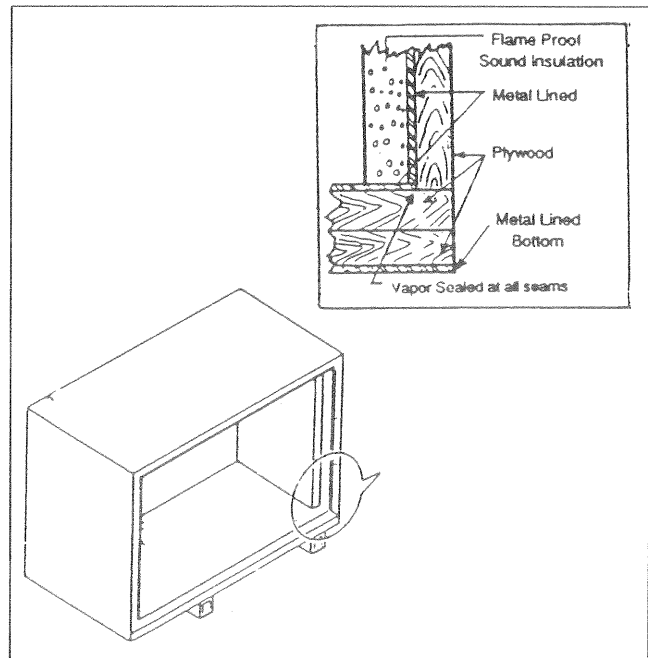

Figure 17 — Typical Compartment Construction
- The generator compartment should be constructed of 1/2 inch thick plywood. Make the compartment floor a double thickness of 1/2 inch plywood with the grain of the wood at cross section for added strength (Figure 17).